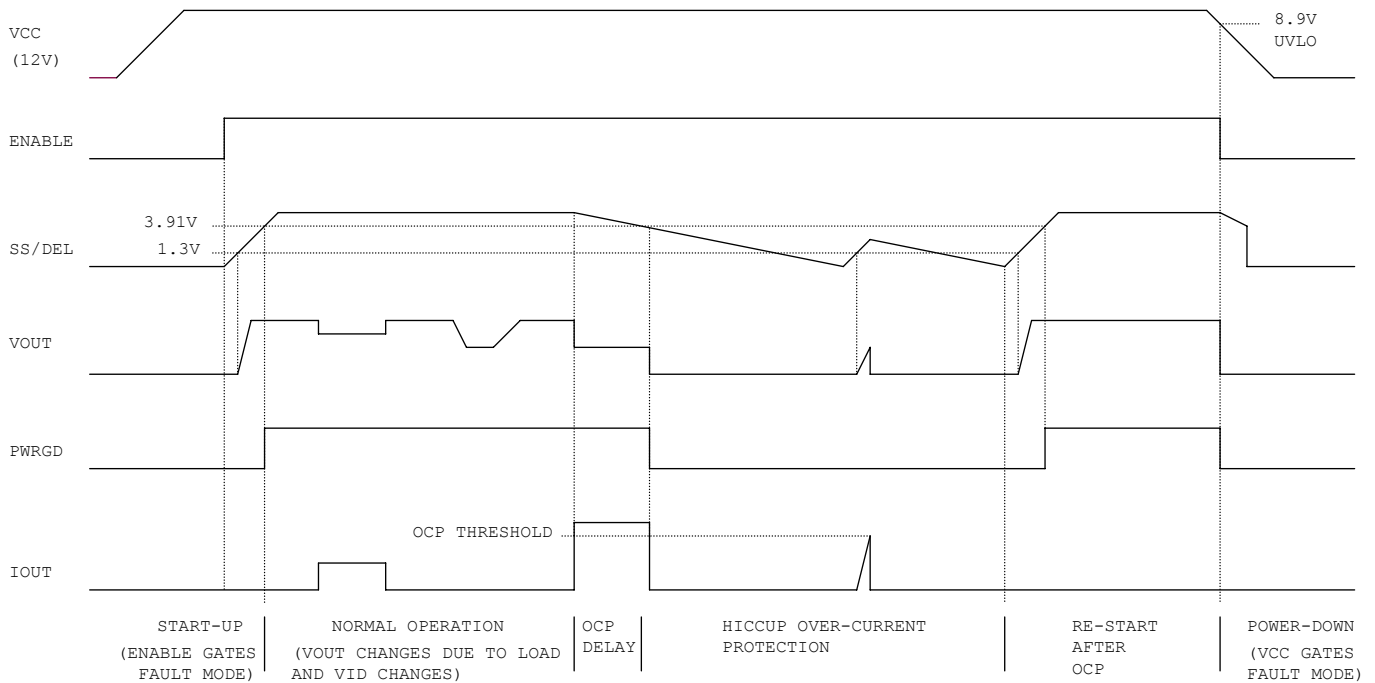

Figure 10. Operating Waveforms
Figure 10 depicts the various operating modes as controlled by the SS/DEL function. If there is no fault, the SS/DEL pin will begin to be charged. The error amplifier output is clamped low until SS/DEL reaches 1.3V. The error amplifier will then regulate the converter's output voltage to match the SS/DEL voltage less the 1.3V offset until it reaches the level determined by the VID inputs. The SS/DEL voltage continues to increase until it rises above 3.91V and allows the PWRGD signal to be asserted. SS/DEL finally settles at 4V, indicating the end of the soft start.
The  $SS/DEL$  pin voltage controls the slew rate of the converter output voltage, as shown in Figure 10. After the  $ENABLE$  pin voltage rises above 0.6V, there is a soft-start delay time  $t_{SSDEL}$ , after which the error amplifier output is released to allow the soft start. The soft start time  $t_{SS}$  represents the time during which converter voltage rises from zero to  $V_O$ .  $t_{SS}$  can be programmed by an external capacitor, which is determined by Equation (1).